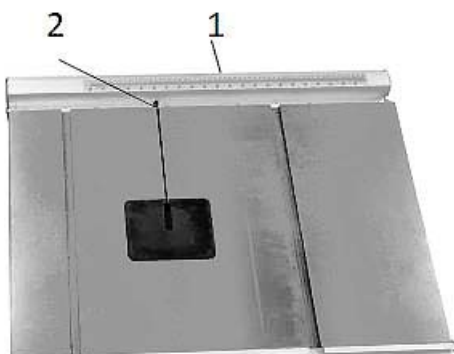

Fig. 7: Assembly of the worktable
Step 1: Remove the stop guide (Pos. 1, Fig. 7) and the fixing pin (Pos. 2, Fig. 7).